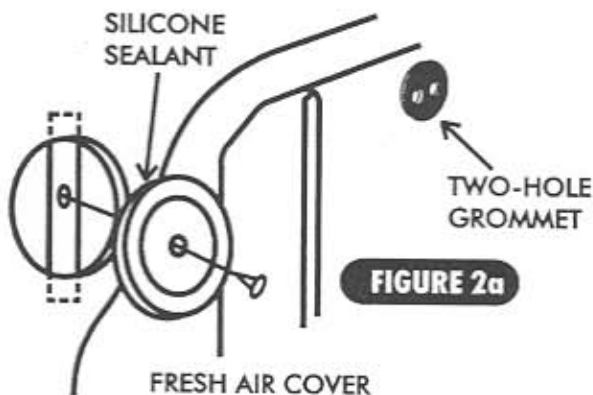

FIGURE 2a
- 10. REMOVE THE OEM A/C WIRING HARNESS COMING THRU THE TWO HOLE GROMMET IN THE FIREWALL (DISCARD). PLUG THE HOLE IN THE FIREWALL WITH THE 1-9/16" PLUG LOCATED IN THE DRAIN KIT. IF YOUR RADIO ANTENNA WIRE WAS ALSO PASSING THRU THE OEM GROMMET DRILL A HOLE IN THE SUPPLIED 1-9/16" PLUG AND ROUTE THE WIRE AS IT WAS ORIGINALLY. (SEE FIG. 2a)
1. INSTALL THE FRESH AIR COVER ON THE FIREWALL, USING 1/4" x 1" BOLT & 1/4" BEAD OF SILICONE. SEE FIGURE 2a.